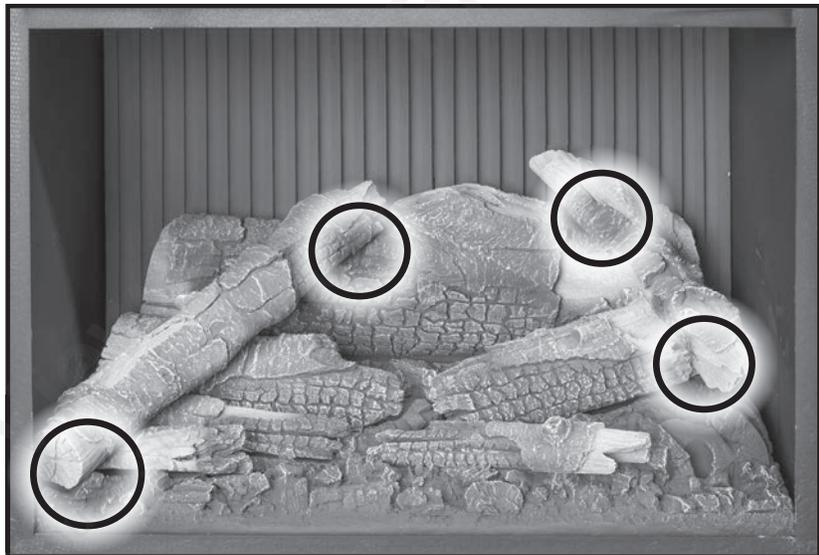

Figure 48. Top Logs.
6. Next, Install the left and right top logs, as shown in Figure 48. Note the locating notches on the bottom side of both logs (areas highlighted).